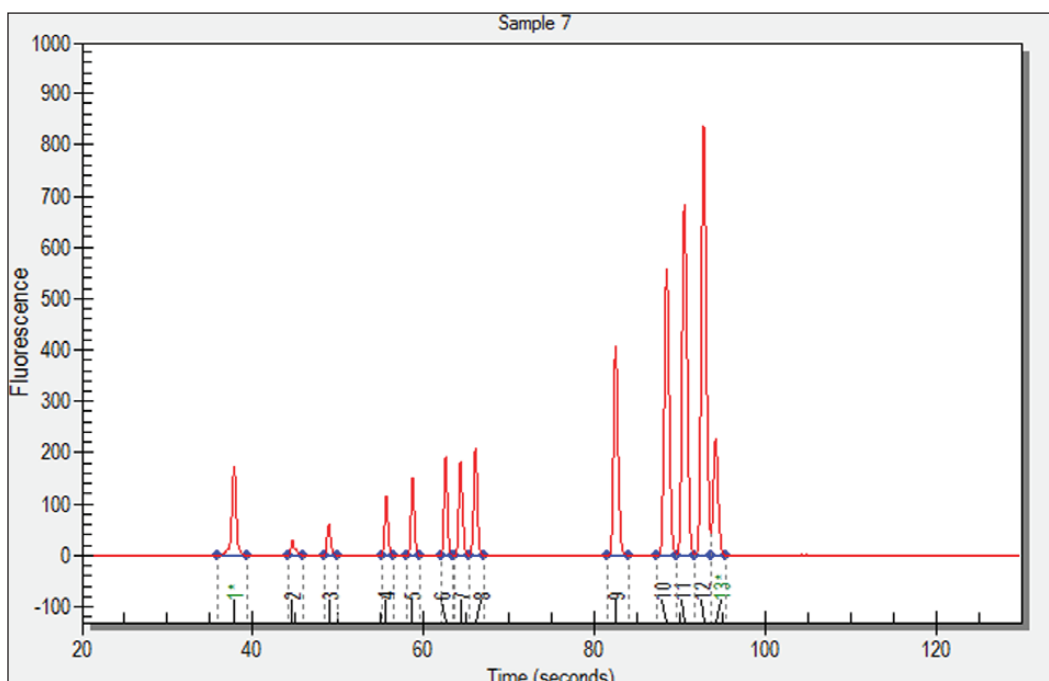

Fig. 6.4. Manual integration mode indicates the beginning and end of peak baselines with blue dots.
2. Adjust the baseline by clicking and dragging the dots at the ends of the peaks (Figure 6.4).